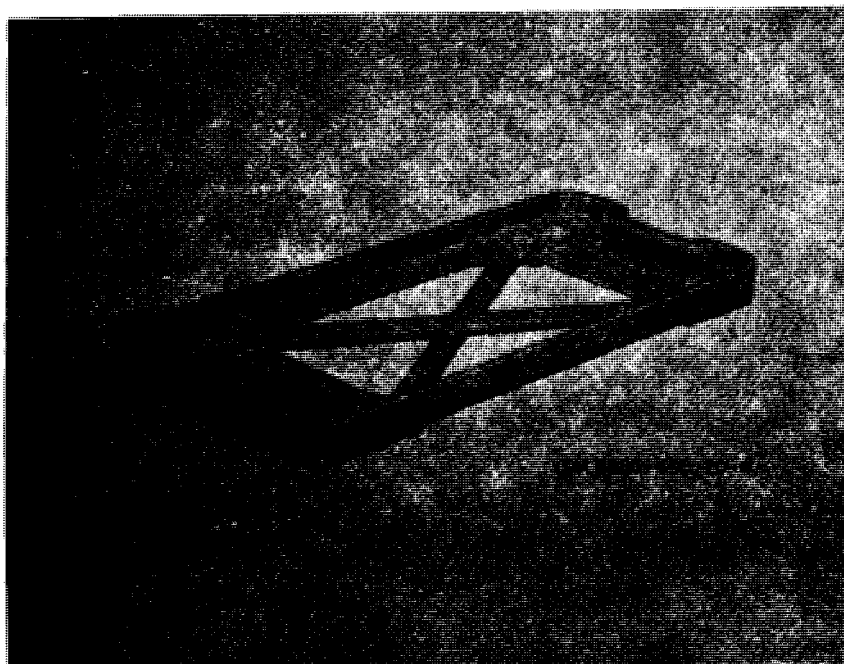

Figure 1-4. Mounting MT-3809/APX-72.
b. The MT-3809/APX-72 (fig. 1-4) is a hard-type mount. It has a recess at the rear into which a protruding lip on the RT-859/APX-72 lower case is placed. Two swivel operating nut and bolt combinations at the front fasten down on two protruding feet on the front of the RT-859/APX-72. The MT-3809/APX-72 is constructed of cast aluminum.